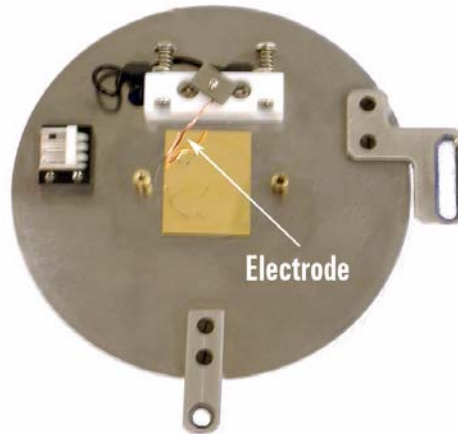

Figure 83 Sample on plate with electrode attached
- 5 Attach an electrode from the sample plate to the sample. Lift the spring-loaded electrode clip on the sample plate and insert the electrode under it (Figure 83). Connect the electrode to the sample, ensuring good contact.
- 3 Attach an electrode from the sample plate to the sample. A length of copper wire works well as the electrode. Lift the spring-loaded electrode clip on the sample plate and insert the electrode under it (Figure 83 on page 117). Connect the electrode to the sample. Check the continuity between the working electrode contact and sample to ensure that a proper connection is achieved.